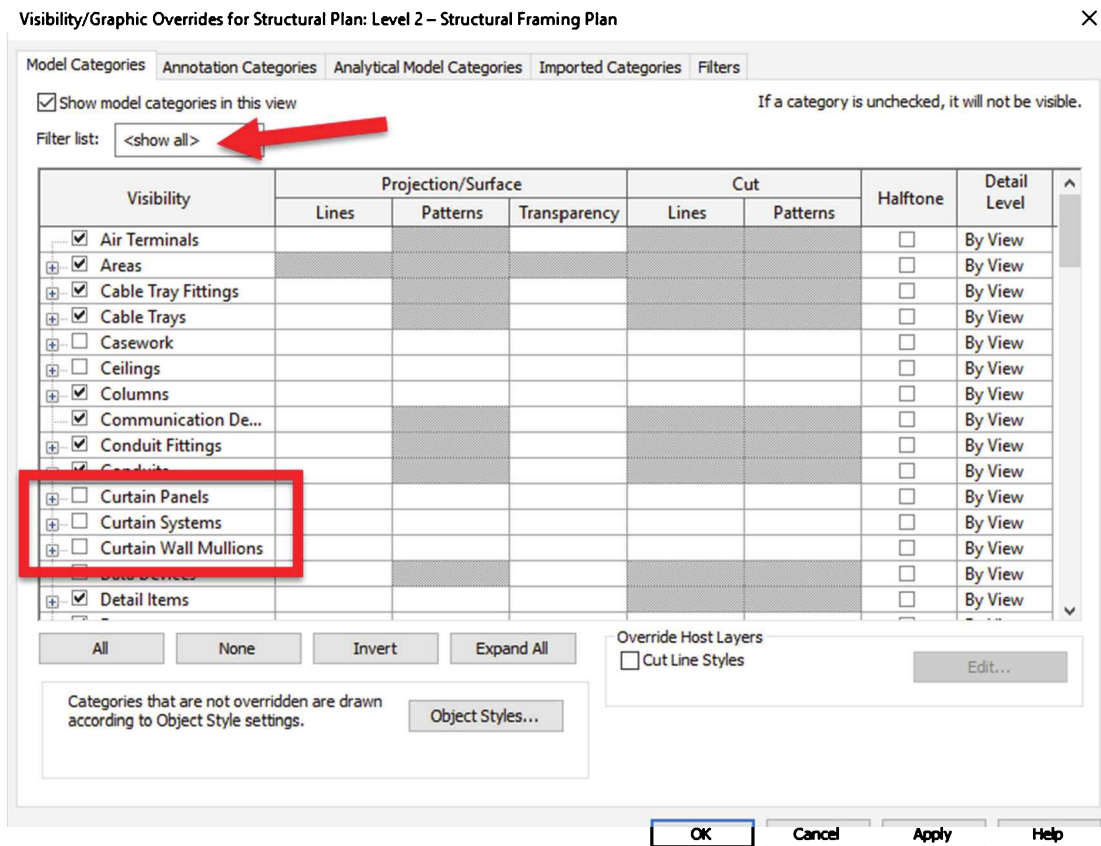

FIGURE 8-3.11 Visibility dialog; turning off the curtain walls
23. Set *Filter list* to **Show all**. (See Figure 8-3.11.)
24. Uncheck the three “**Curtain**” categories. (See Figure 8-3.11.)